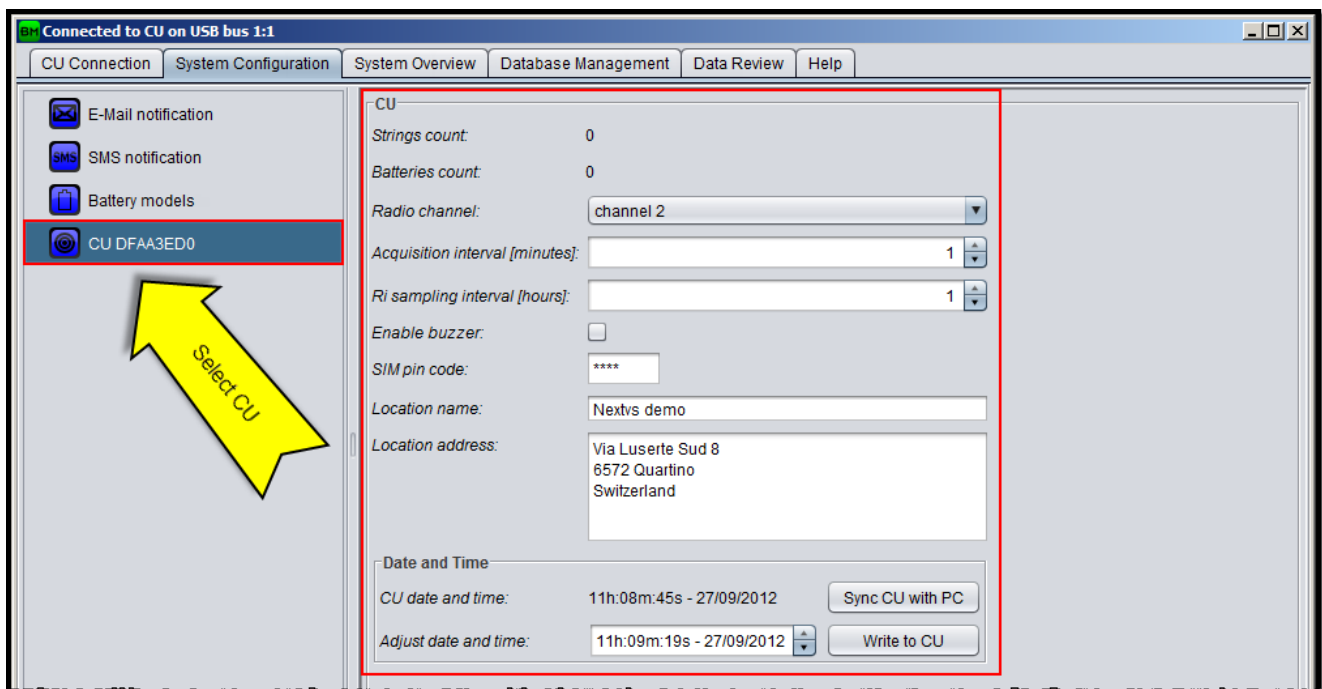

Figure 32: CU configuration
12. Select the CU as shown on Figure 32.